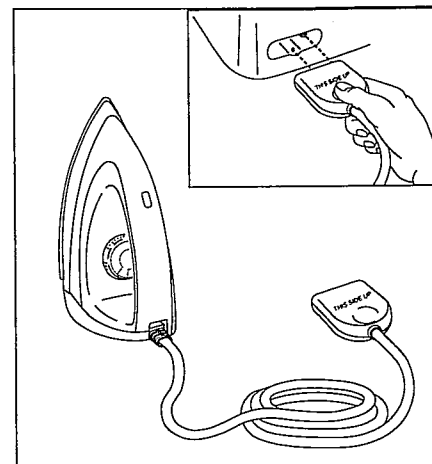

Figure 4
1. Locate Iron Connector on the end of Connector Cable. Hold Connector so the words "This Side Up" are facing up. While holding Connector with thumb and forefinger, push Connector into Connector Outlet on front of Control Center (Figure 4). Be sure Connector is pushed completely into Outlet.